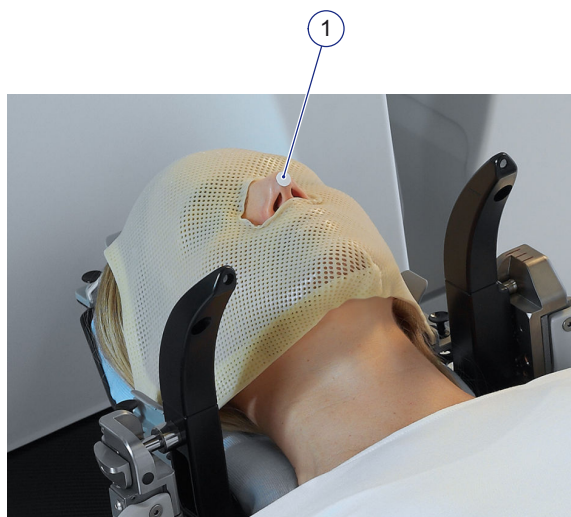

Figure 5.42 Patient marker on the patient
- 1 Put the patient marker (1) on the nose of the patient, see Figure 5.42.